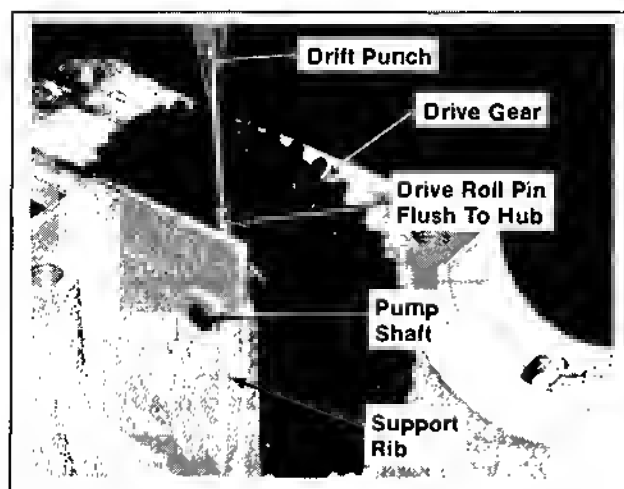

Figure 11-2. Securing Oil Pump Drive Gear to Shaft.
3. Lubricate a new roll pin with grease. Drive the roll pin until it is flush with gear hub. Refer to Figure 11-2.